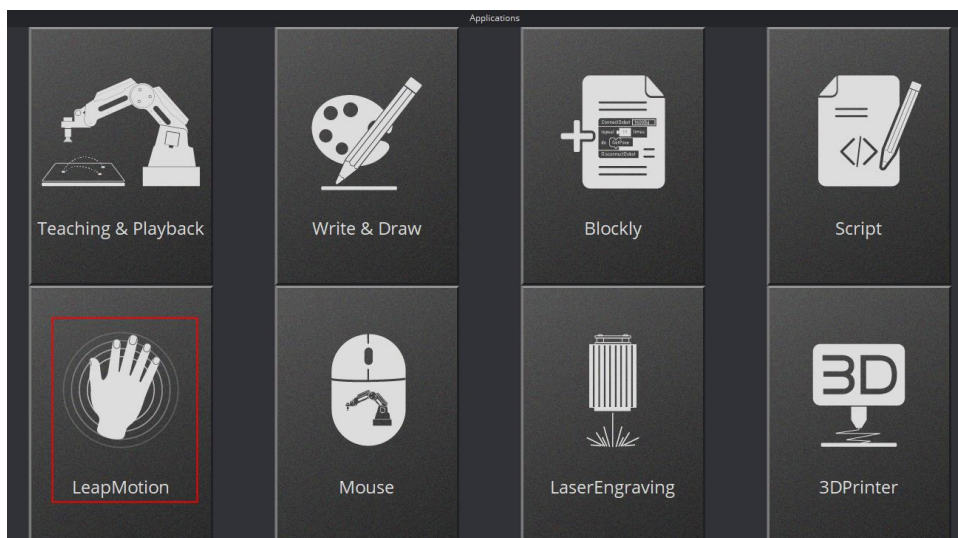

Figure 5.96 Click LeapMotion
Step 2 Click **LeapMotion**, as shown in Figure 5.96.